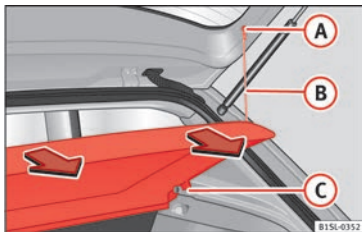

Fig. 137 In the luggage compartment: removing and installing the rear shelf
- Unhook the loops »» **Fig. 137** (B) from housings (A).
- Extract the shelf from its housing (C) upwards and then pull it out.